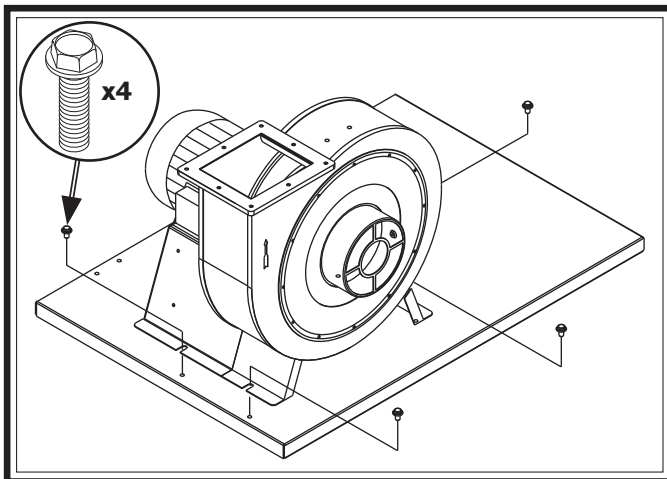

Figure 11. Motor/impeller assembly on base.
2. Align motor/impeller assembly with mounting holes on base. Attach assembly to base with (4)  $\frac{5}{16}$ "-18 x  $\frac{1}{2}$ " flange bolts (see **Figure 11**).